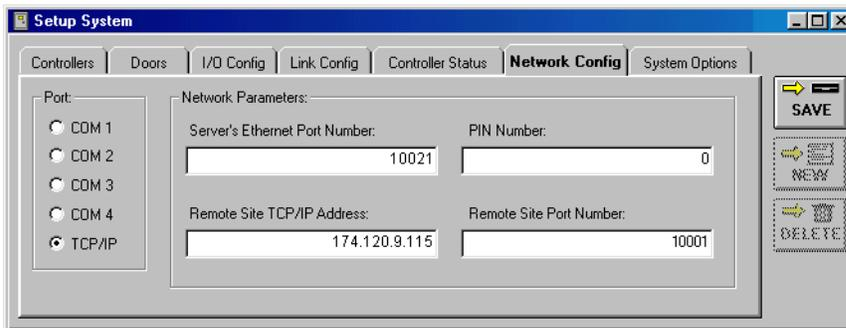

Figure 38: *Doors* TCP/IP Settings
1. Check the IP address and port number (see Figure 38).